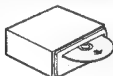

Fig. 37
- Do not leave the disc halfway into the unit as shown below. Doing so may cause the disc to be bent or dropped (Fig. 37).